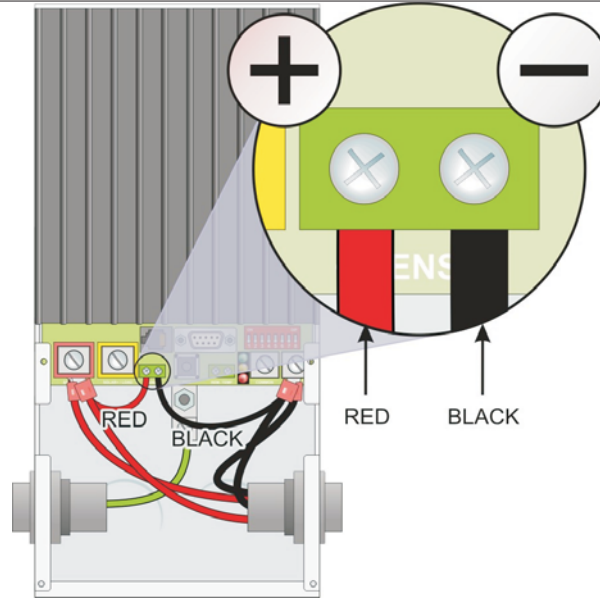

Figure 6-22:
14. Attach two 12 AWG wires from the Load Diverter's Sense lines to the battery terminals as illustrated in Figure 6-22.